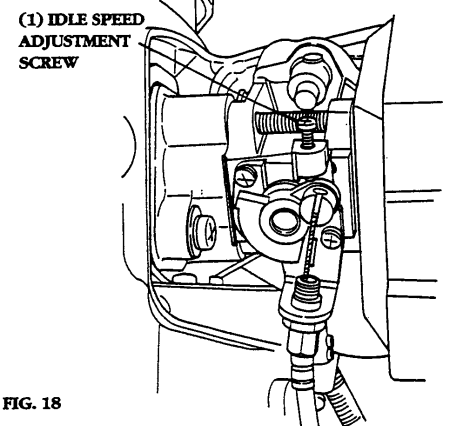

FIG. 18
7. (FIG. 18) Carburetor Idle Adjustment - The carburetor has been pre-adjusted at the factory and normally will not require further adjustment. If the engine does not run smoothly at idle speed, first clean the air cleaner element, fuel filter and check fuel lines. If they are okay, adjust the carburetor as follows.
- b) Turn the idle speed adjustment screw (1) clockwise or counterclockwise (clockwise increases engine speed, counterclockwise decreases engine speed) to achieve the correct idling speed. NOTE: If the engine speed is too high, the tines will rotate. If the engine speed is too low, the engine will stall.